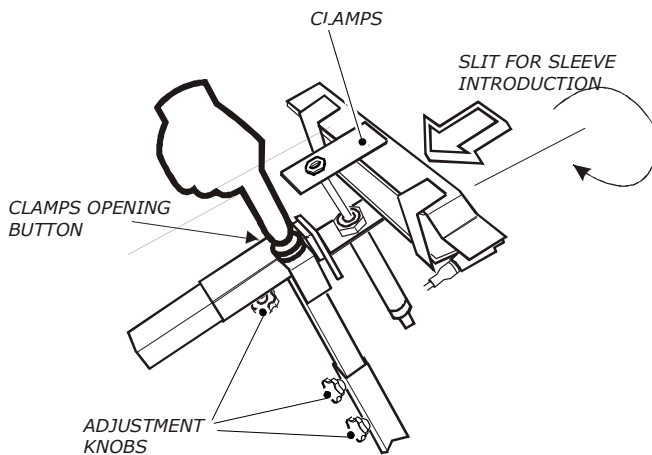

Fig. 2
The functioning of clamps and arms is automatic. You just need to insert the garments sleeves into the special slit; as soon as Zeus notices the presence of the sleeves, it will tighten the clamps. If the sleeves are inserted incorrectly, by pushing for a couple of seconds the clamps opening button, the sleeves will be freed. It is possible to adjust height and distance of the clamps by using the special knobs (**fig. 2**). You can also turn the clamps on vertical position.
- N.B.:** do not increase the pressure of the clamps too much; a high pressure might cause hand injuries if accidentally pressed by the clamps. Should it occur, push immediately on the opening button (**fig. 2**).